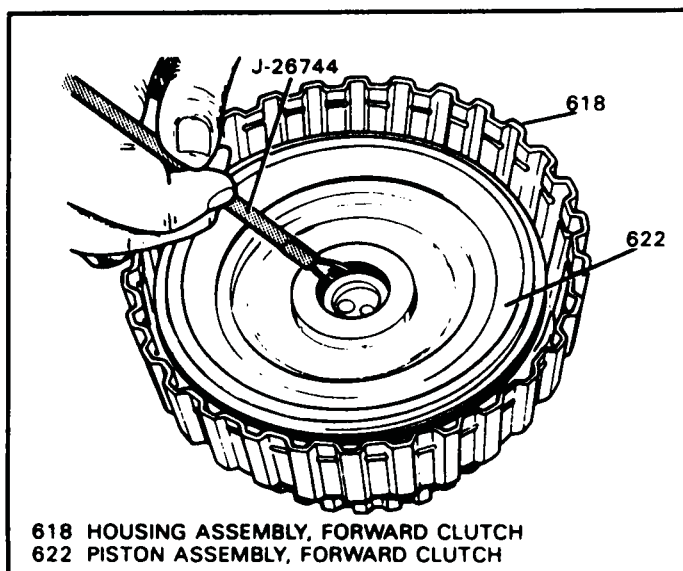

Figure 91
23. Install the piston into the forward clutch drum with a rotating motion and using J-26744 while pushing down on piston (See Figure 91).